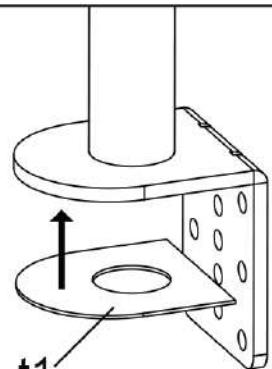

Figure 2
2. Attach Soft Pad(t1) to the "C" Clamp Brace(c), see Figure 2.